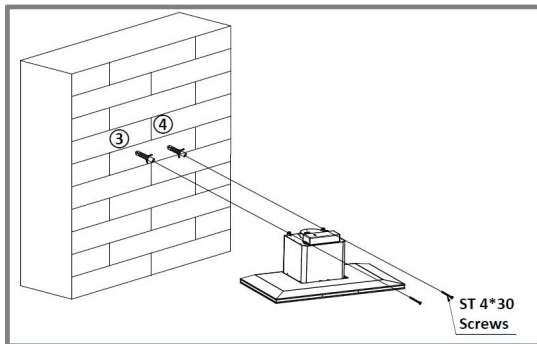
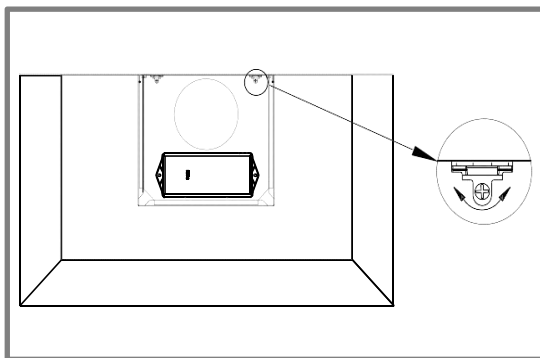
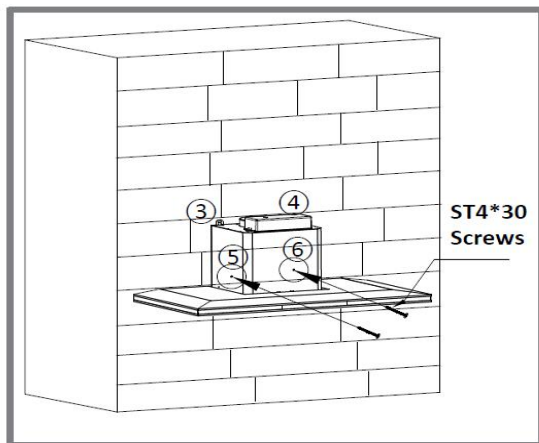

Fig.3
Fig.3.1
Fig.3.2
Step 2 (Fig.3, Fig.3.1, Fig.3.2)
- Mount the appliance onto the wall and do ensure that it is properly engaged with the mounting screws 3 & 4 (Fig.3)
- If there is a need to realign the appliance, adjust the screws on the top of the motor housing (Fig.3.1)
- Tighten the screws 3, 4, 5, 6 firmly after realignment. (Fig. 3.2)